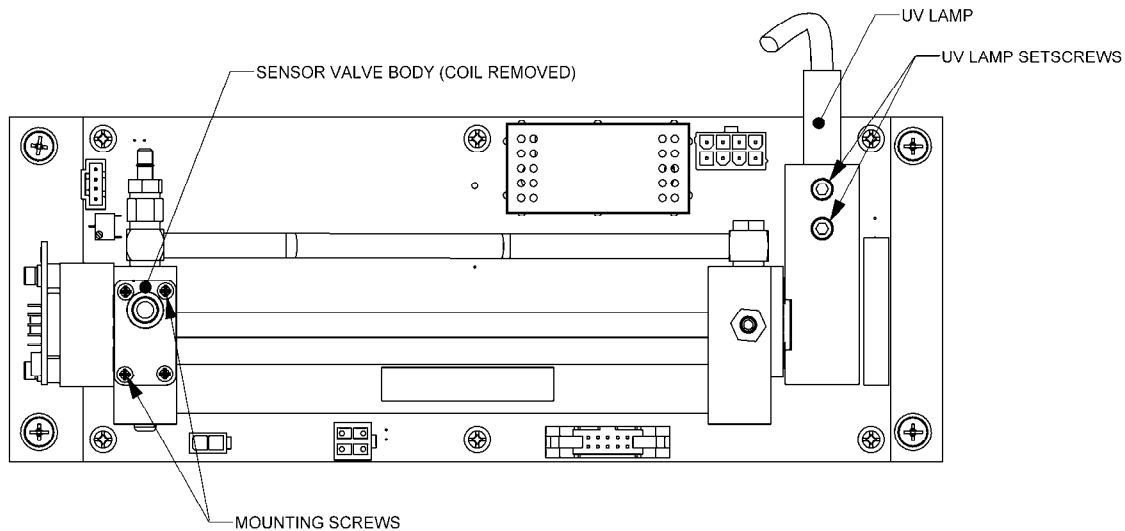

Figure 6-1: Sensor Detail
7. Remove the two (2) mounting screws using a #2 Phillips screwdriver. See Figure 6-1. Note that there are four screw heads visible on the top of the valve body, only two (2) of these should be removed.